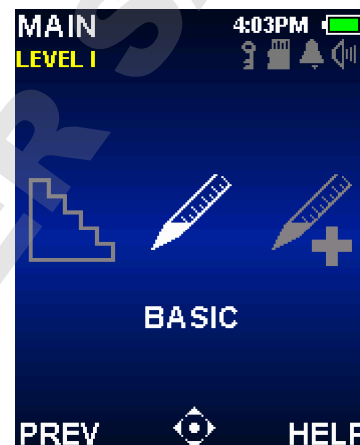

Figure 14: E4 XLS Controls
- **Level I Menu:** Allows selection of common operational modes and access to the Level II Menu. See Figure 14. The default Level I Menu operational mode selections include Basic Mode, Advanced Mode, Multi-Dispense Mode, Manual Mode and Setup Modes.